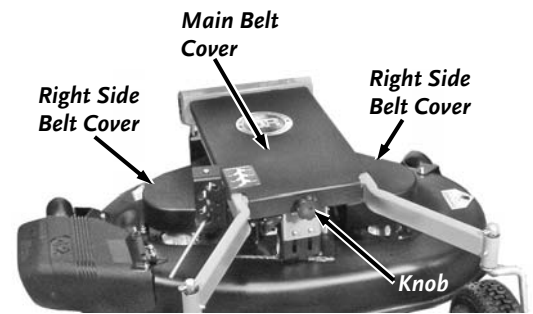

Figure 11
1. Remove the Main Belt Cover and the two Side Belt Covers (**Figure 11**).